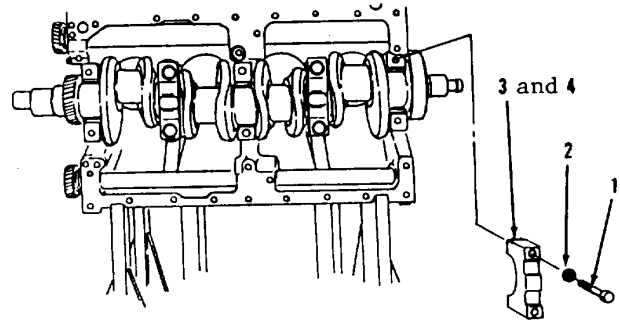

Figure 13-14.
1. Remove six bolts (1), washers (2) and three items 3 and 4 as an assembly (Figure 13-14).
2. Position three items 4 and 3 as an assembly (Figure 13-14) under crankshaft journal of rear main bearing, aligning holes.
3. Coat six washers (2) and bolts (1) with clean engine oil and install finger tight.